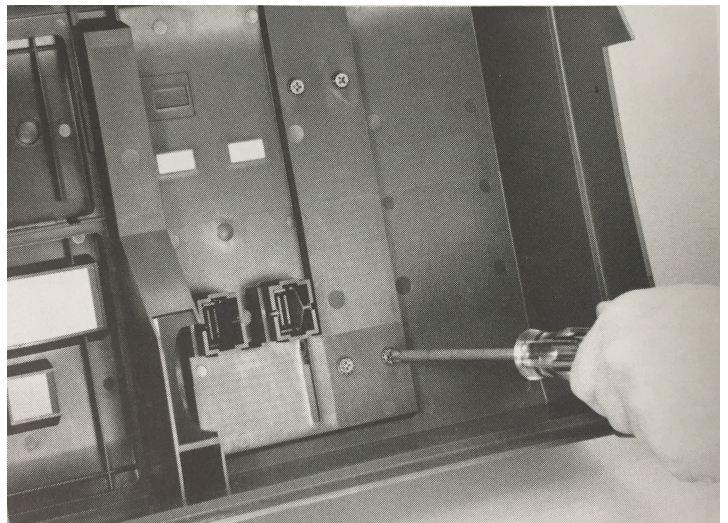

Figure 6. The inside of the breaker cover, showing the screws being attached to the Key Interlock mounting plate.
4. Mount the lock mounting plate to the cover, as shown in Figure 6, with four #8-32 flathead screws and lock washers.